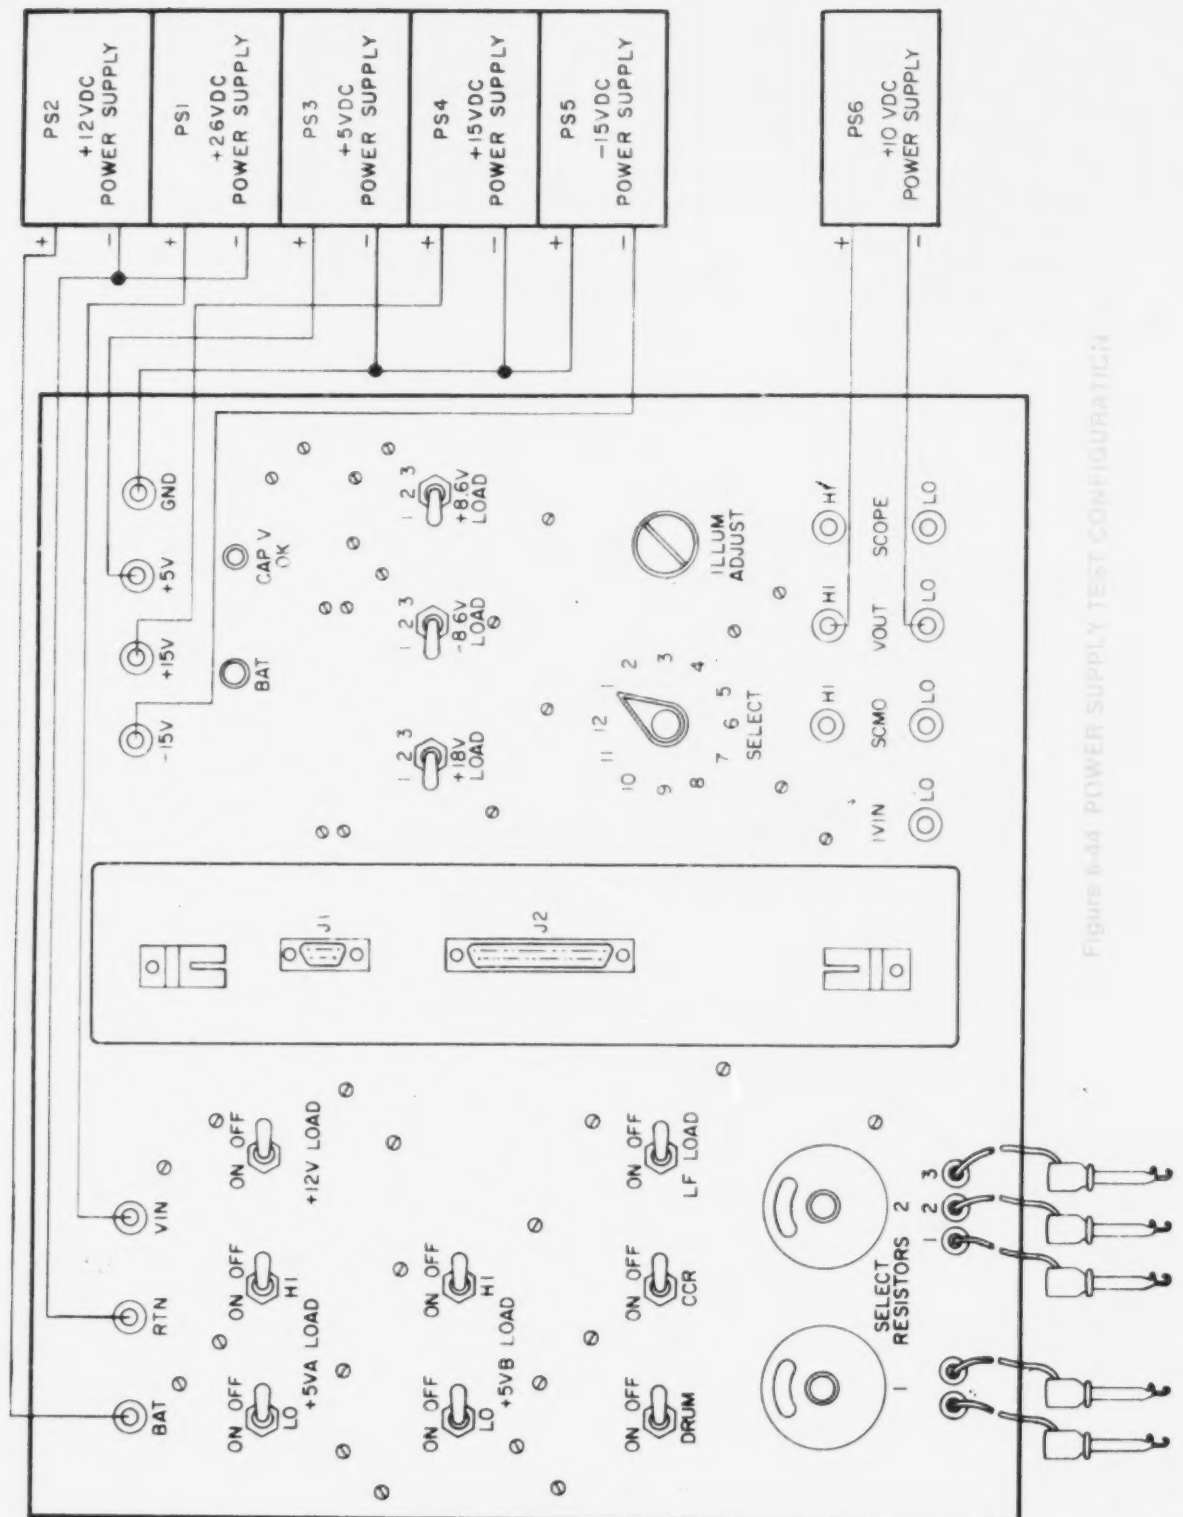

Figure 6-44. POWER SUPPLY TEST CONFIGURATION
F POWER SUPPLY TEST FIXTURE TEST PROCEDURES (fig. 6-44)
- Set up test fixture supplies as shown in figure 6-44.